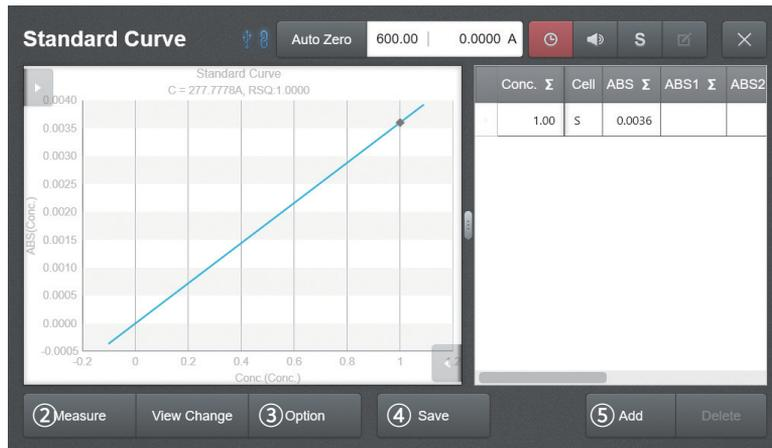

Fig. 4.15
3. [Fig. 4.15] Set the details for measurement by moving to ③ **Option** from standard curve mode.
6. [Fig. 4.15] Insert a sample to measure into the pertinent cell holder after entering the density, and take measurements by pressing ② **Measure**.
7. [Fig. 4.15] If there a sample to add, insert the sample to measure into the pertinent cell holder and press ② **Measure** to take measurements.
9. [Fig. 4.15] If ④ **Save** is selected, a calibration curve with the selected standard curve type will be created, and the chart, calibration curve formula, and RSQ value can be checked.